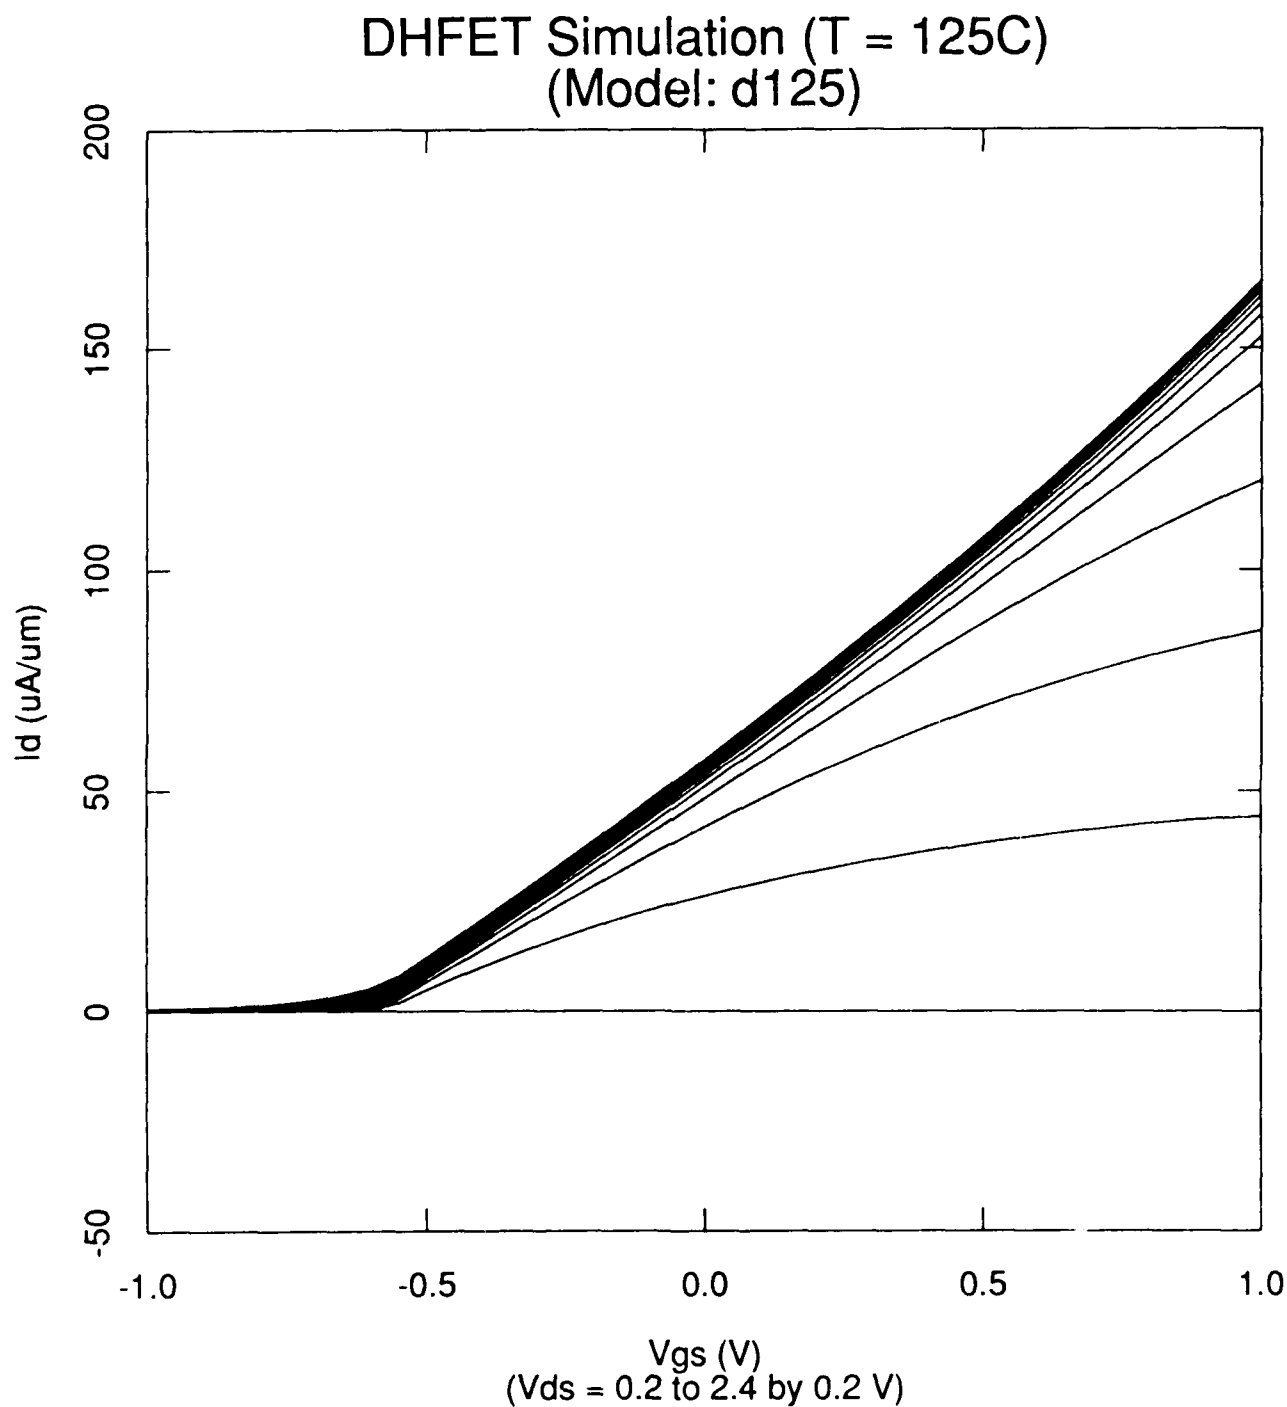

Figure 11. I_d vs. V_{gs} (V_{ds} stepped) for d125 DHFET Simulation at 125C.
- Figure 11. I_d vs. V_{gs} (V_{ds} stepped) for d125 DHFET Simulation at 125C.